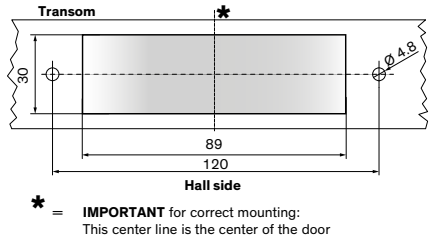

Figure 10: Template (Drilling and cutting out)
2. Drill two 4.8 mm (3/16 inch) diameter holes to mount the preassembled sensor into the transom with 120 mm distance from drilling hole to drilling hole (Figure 10).